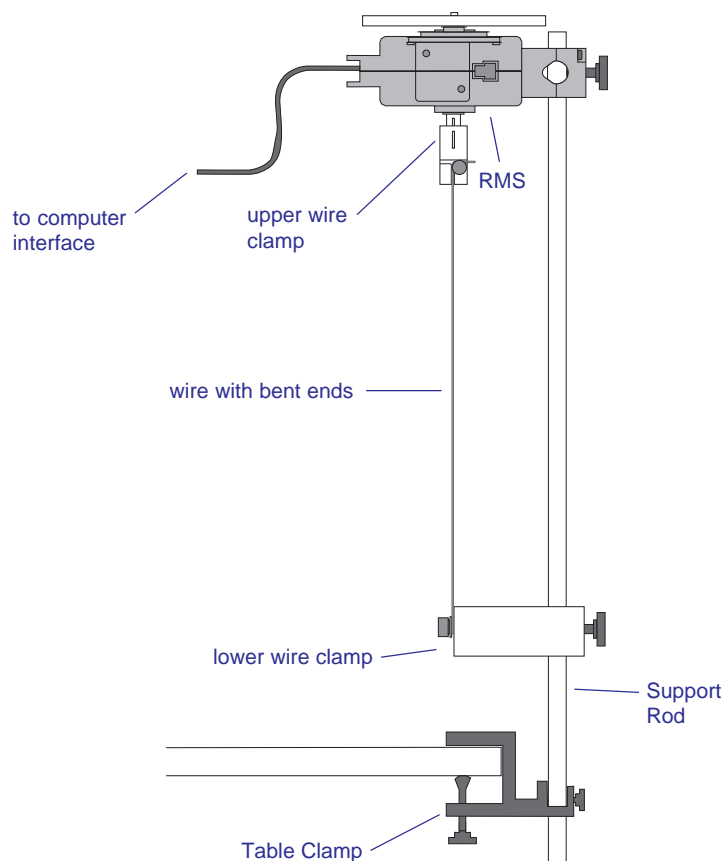

Figure 2
1. Use the Table Clamp to secure the Support Rod to a table in close proximity to your computer interface (Figure 2).